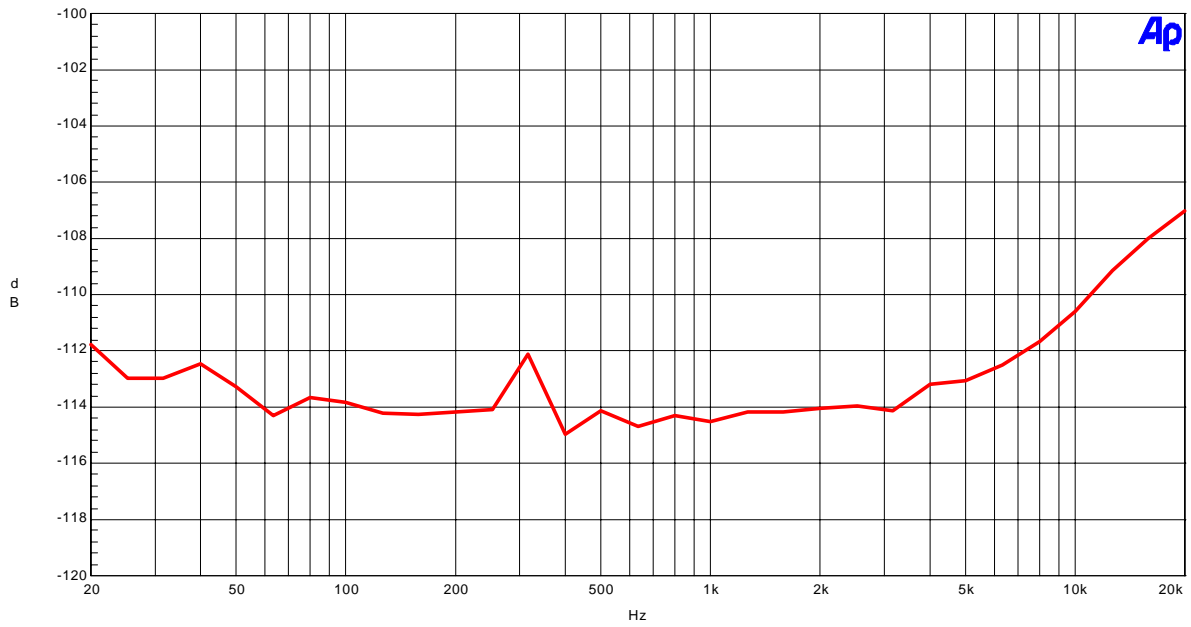

Figure 10. Cross-talk (fs=44.1kHz; 0dBFS input)
- Figure 10. Cross-talk (0dBFS input)